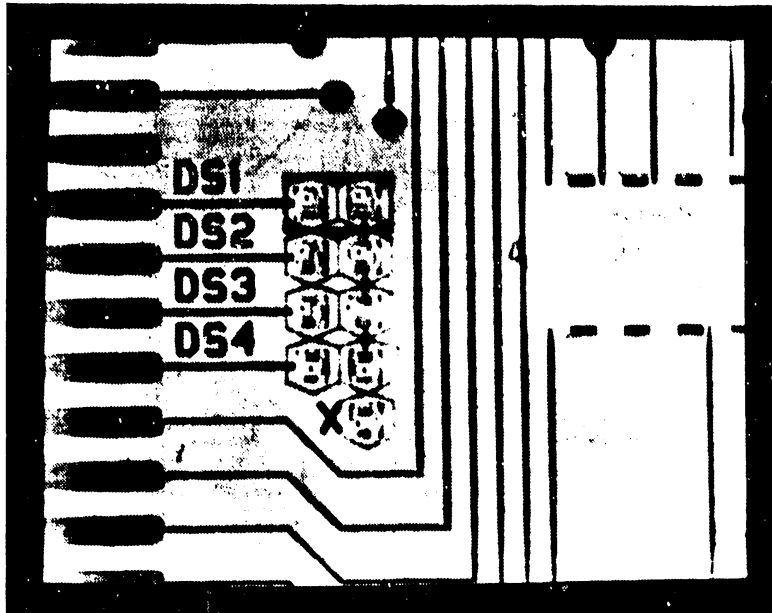

FIGURE 2
3. Drive Selection - Selects the disk drive number 1 through 4. INSTALL this jumper for the correct drive number as shown in figure 2.